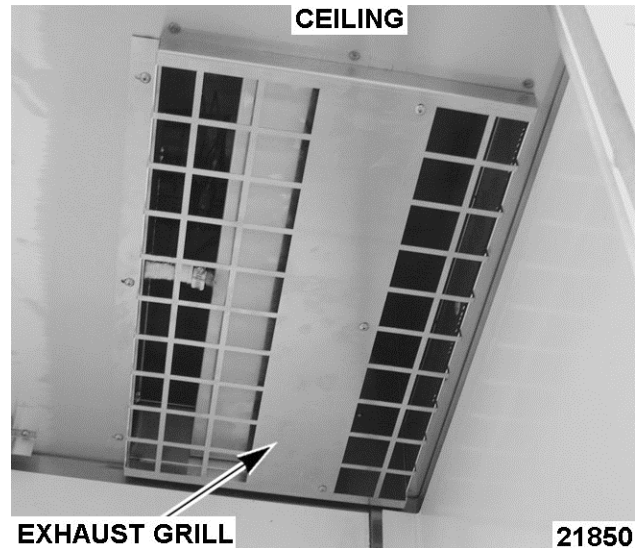

Fig. 27
3. Install exhaust grill (Fig. 27) onto ceiling (under the evaporator assembly) and to shroud baffle, using 10-32 x 0.5" hex screws in 9 places.